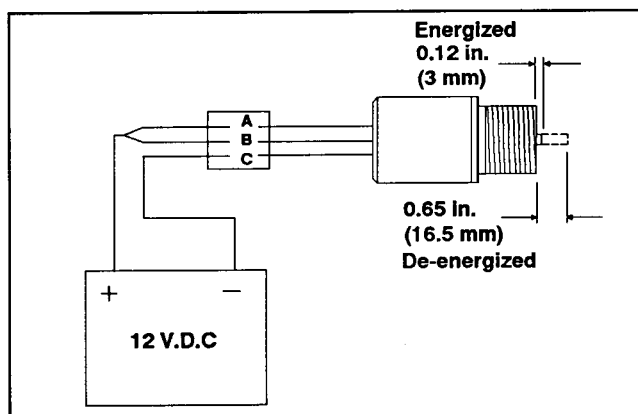

Figure 17
2. Connect a 12 volt battery so the positive (+) battery terminal is connected to terminals A (hold) and B (pull) (Fig. 17). Connect the negative (-) battery terminal to solenoid terminal C (common). The plunger should retract to the dimension shown.